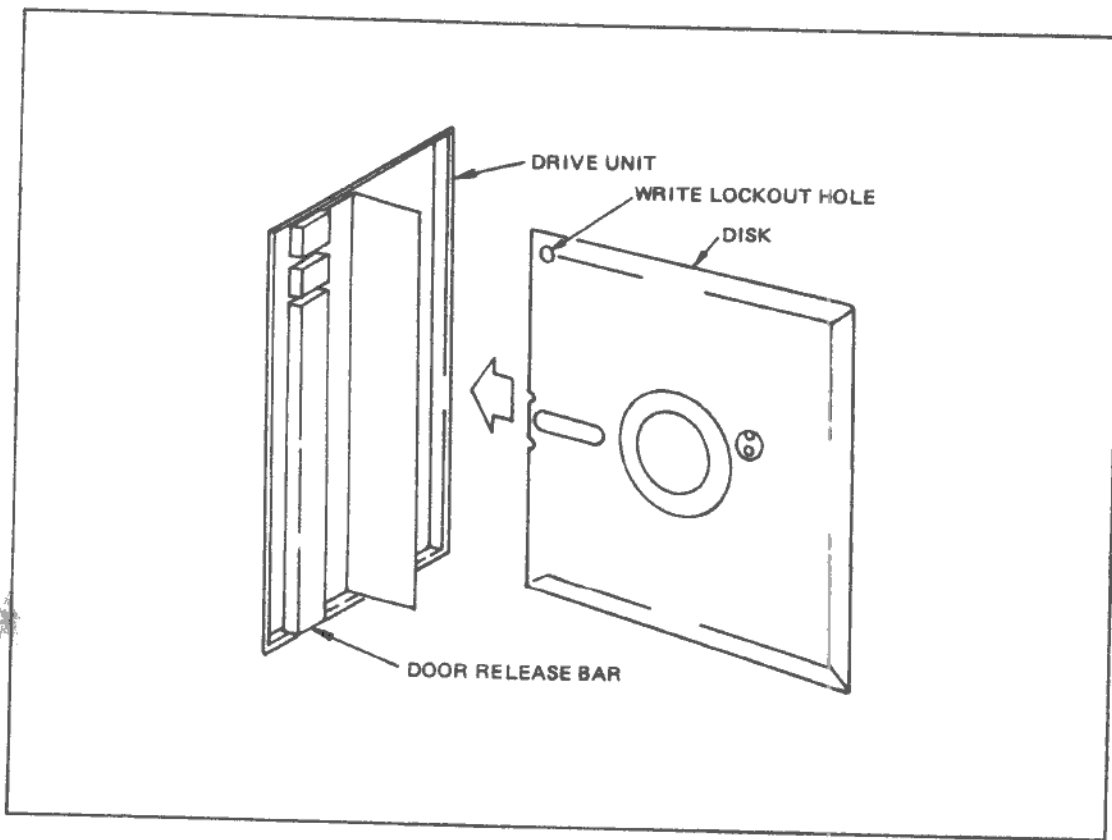

Figure 3-34. TP 461 Disk Insertion
To write disable a BSMD, remove the tape covering the Write Lockout Hole (see figure 3-34). In order to write enable a BSMD that has been inhibited in this manner, cover the Write Lockout Hole with a label or tape that does not allow light to pass through the hole.
3. Insert the disk as shown in figure 3-34.